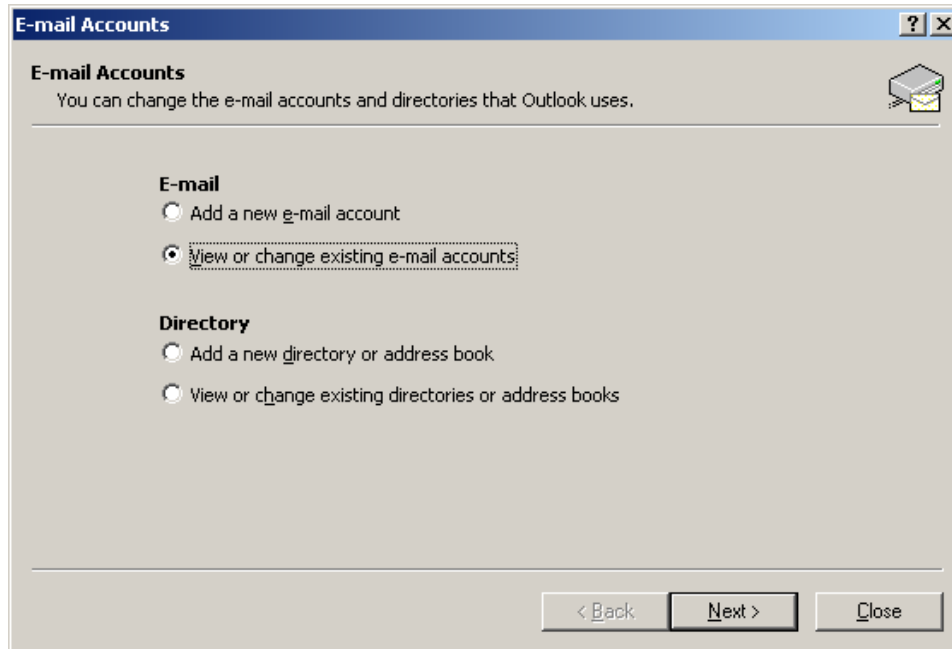

Figure 5-8. E-mail Accounts window number one
1. Click on the **Tools** menu and select **E-mail Account**. The window shown in Figure 5-8 appears.